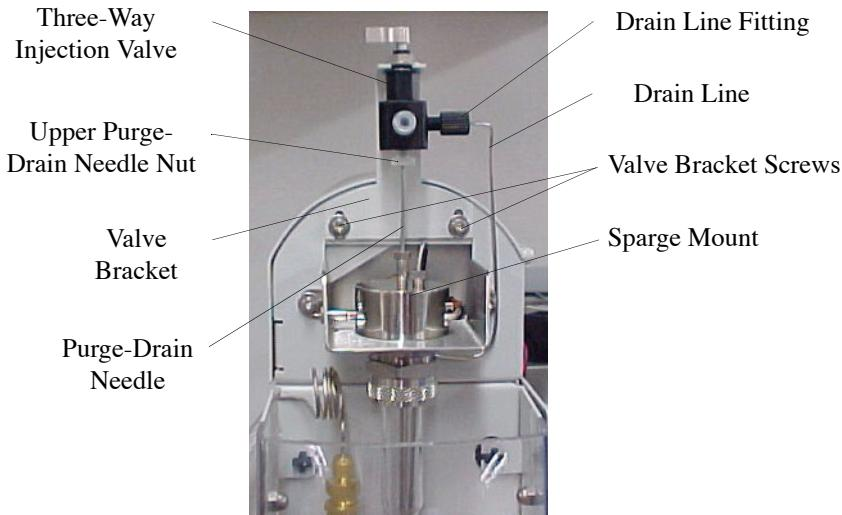

Figure 3.3. Removing the Three-Way Injection Valve
3. Disconnect the drain line from the three-way injection valve by loosening the Cheminert® 1/4–28 drain line fitting, depicted in Figure 3.3.